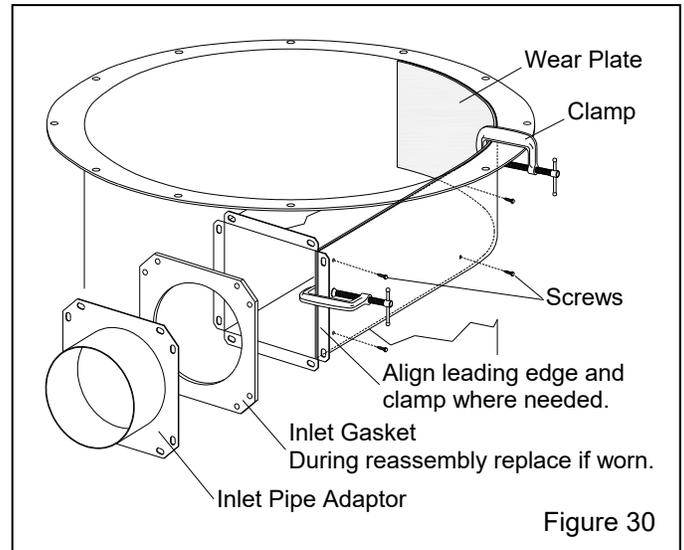

Figure 30
7.11 Replacing Reclaimer Wear Plate – Figure 30